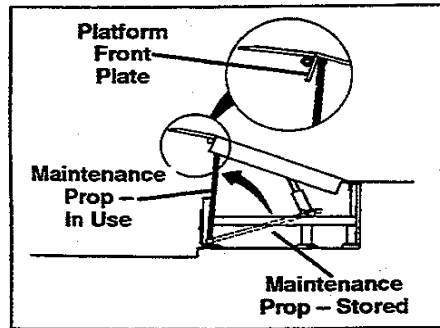

Figure 4
9. Use fork lift (or other method) to raise dock leveler platform to a height that will allow use of the maintenance prop. The maintenance prop is accessible when the platform is raised. The top of the prop should be positioned directly behind the front header plate of the platform. See Figure 4